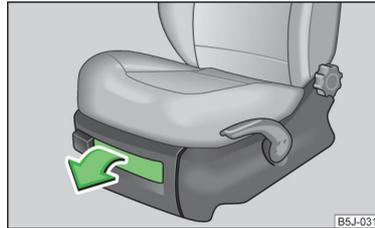

Fig. 89
- Pull the handle to open the lid » Fig. 89.